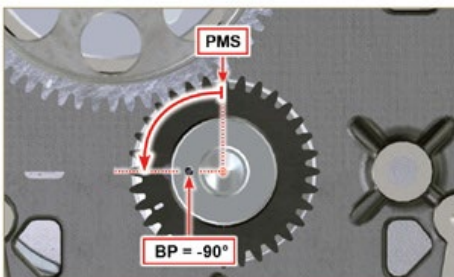
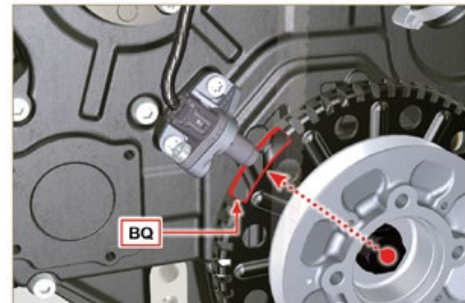

Fig 9.58a
Fig 9.58b
- Check that the pistons are positioned half way between the TDC and BDC. Rotate the crankshaft 90° counterclockwise with regard to the 1st cylinder TDC, positioning the crankshaft pin **BP** as shown in Fig 9.58a. If the crankshaft pulley and the timing gear cover have not been removed, rotate the crankshaft positioning the reference **BQ** located on the target wheel in correspondence of the speed sensor, as shown in Fig. 9.58b.